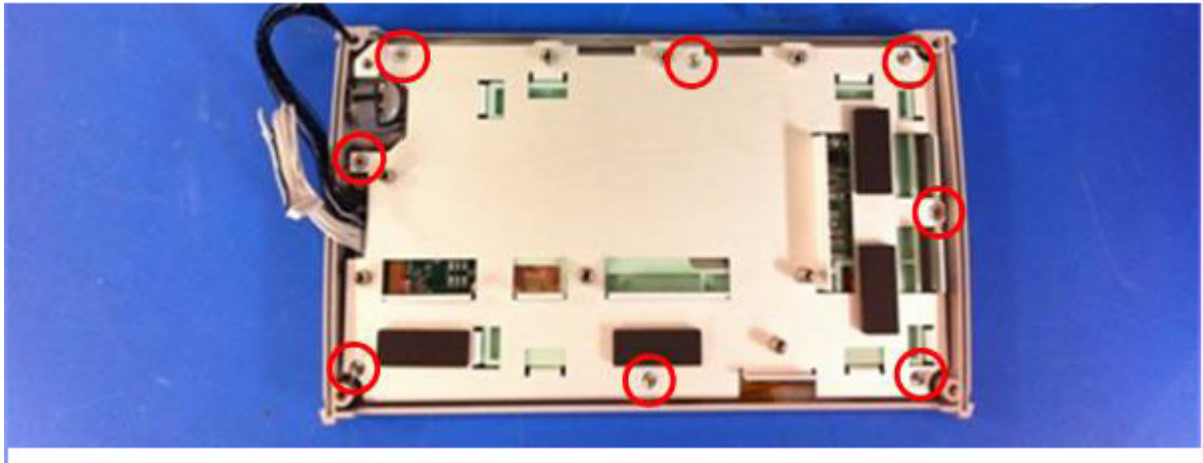

Figure 4-13. Removing the LCD Assembly
4. Remove the 8 screws connecting the LCD bracket to the front half of the case (Figure 4-13).